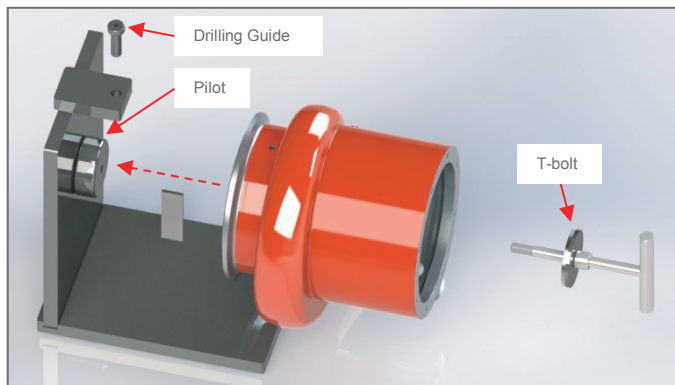

Figure 4: Slide in pump body
6. Put the Drilling Guide aside. Slide in the pump body on the Drilling Jig Pilot until pump body rests on the vertical support. See Figure 4.